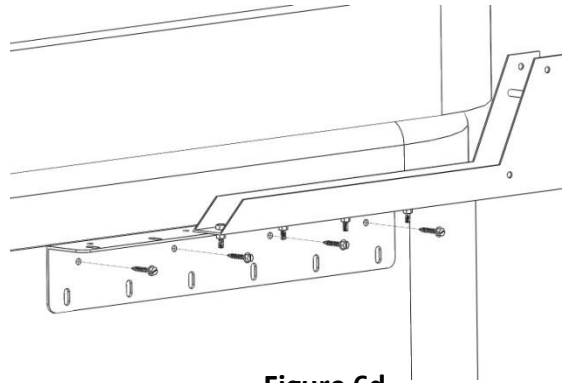

Figure 6d
d. Use the 4 Lag Screws (cvA) to mount the Side Mount Bracket (cvAA) to the side of the spa. Repeat Steps 6a through 6d on the other side of the spa. See Fig 6d. After you install the Lag Screws (cvA) tighten the Medium Hex Bolts (cvD) and Lock Nuts (cvF) holding the brackets together.